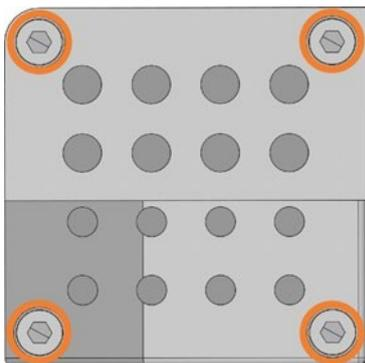
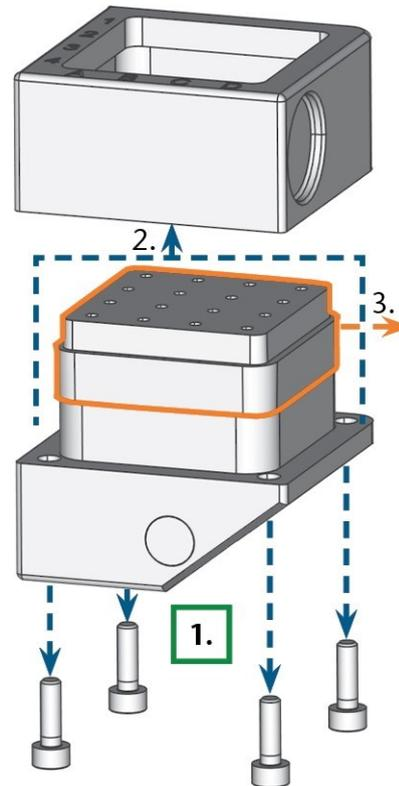

FIG. 90 – THE 4 SCREWS ON THE BOTTOM SIDE OF THE TOOL MAGAZINE (MARKED ORANGE)
FIG. 91 – DISASSEMBLING THE TOOL MAGAZINE AND REMOVING THE INSERT
5. Unscrew the 4 screws on the bottom side of the tool magazine (□ Fig. 90 – see below, □ Fig. 91 – see below, step 1).
6. Lift the cover off the magazine (□ Fig. 91 – see below, step 2).
7. Remove the existing tool magazine insert (□ Fig. 91 – see below, step 3) and replace it with a new one.